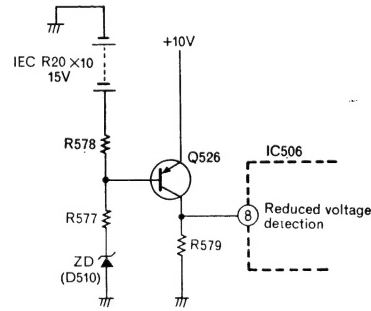

Fig. 11
The display of this unit is controlled by the microcomputer depending on the mode. When the battery output falls below the rated voltage during the use of DC power supply, it is likely to be affected by noise and the microcomputer may malfunction. Accordingly, a reduced voltage alarm function which signals the reduced voltage just before it drops below the rated voltage, is provided. Fig. 11 shows the reduced voltage detector circuit. Terminal (8) of IC506 is set to H level when the power voltage is within the rating, and to L level when it is less than 30% of the rated voltage (approx. less than 10.5V). The voltage applied to the zener diode is higher than the zener voltage which is within the rated voltage, and the zener diode becomes active, so the base current of Q526 flows through R577 and the zener diode and Q526 turns ON. The voltage drops because of the collector current across R579 at that time, and terminal (8) of the microcomputer is set to H level. When the voltage drops to less than 30% of the rated voltage, it becomes lower than the zener voltage of the zener diode, so it becomes closed, Q525 turns OFF and the voltage drop of R579 stops, and terminal (8) of the microcomputer is set to L level. When terminal (8) is set to L level, the kHz or MHz indicator of the display flashes every 2 seconds controlled by the microcomputer program.